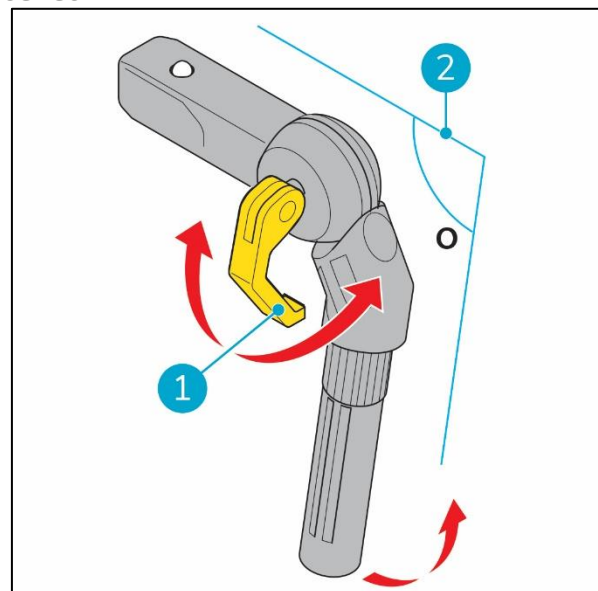

Figure 13
1. Unlock the yellow clip (Figure 13, pos 1).
2. Adjust the working angle of the gooseneck (Figure 13, pos 2).
3. Lock the yellow clip (Figure 13, pos 1) to fixate the gooseneck. Check that the gooseneck cannot move anymore.